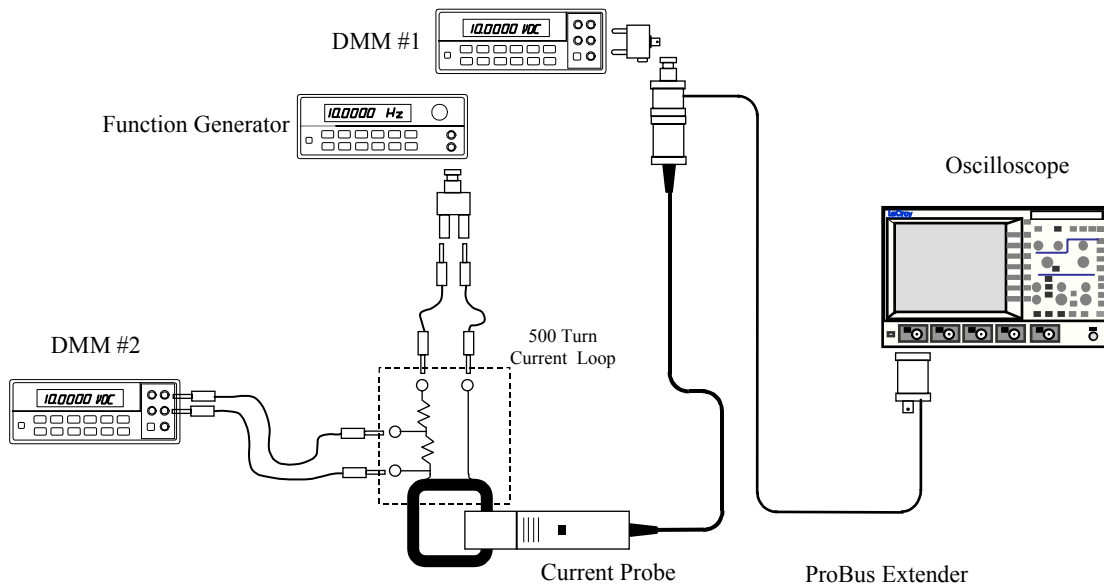

Figure 5-1. LF Accuracy Test Set Up
2. Remove the CP500 from the oscilloscope and reconnect using the ProBus extension cable. Connect the BNC male connector of the ProBus extension to DMM #1 using a BNC Female to Dual Banana adapter. Refer to figure 5-1.